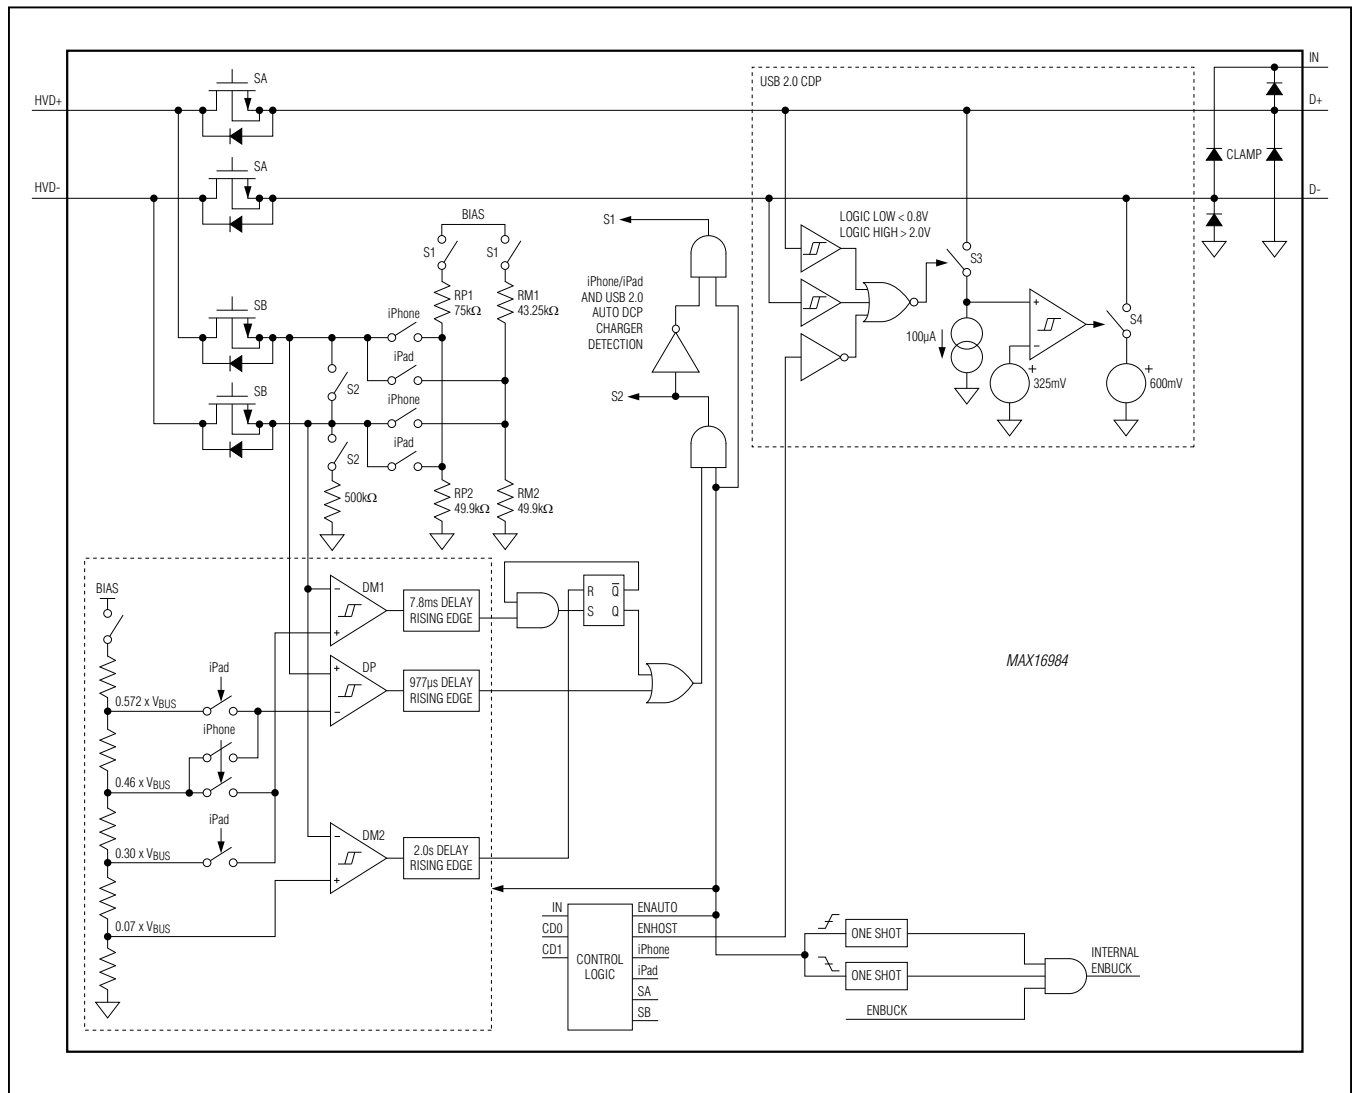

Figure 7. Data Switches and Host Adapter Emulator
a logic-level low/high for USB low-speed (LS) and USB full-speed (FS) data transmission and charging downstream port (CDP) mode. See Table 1 for CDP mode and Figure 7 for a detailed description of all modes.
After a USB-compliant portable device detects V_{BUS} , it is allowed to check if the host device is a CDP by applying a voltage to HVD+ and checking the voltage on HVD-. At this time, it is assumed that HVD+ and HVD- are logic-low, which means that the voltage is less than 0.8V. Then the port-detection circuit is enabled and switch 3 is on (Figure 7). The portable device then drives HVD+ to 0.6V (typ). The comparator closes switch 4 and the HVD- line is then driven to 0.6V (typ). The portable device can now detect that it is connected to a charging port.
provide the proper Apple-compliant iPad bias voltage. Data switches SA are opened and switches SB are closed (Figure 7). Initially, the iPad termination resistors are presented on the HVD+/- pins, the MAX16984 then monitors the voltages at HVD+ and HVD- to determine the type of device attached.
The MAX16984 features an iPhone/DCP auto-detection mode for emulating dedicated iPhone 1.0A charging and USB-IF DCPs. CD1/CD0 must be set high/high to activate iPhone/DCP auto-detection mode. In this mode, the high-voltage-protected HVD+ and HVD- pins are disconnected from the low-voltage D+ and D- pins and are initially connected to internal resistor-dividers to provide the proper Apple-compliant iPhone bias voltage. Data switches SA are opened and switches SB are closed (Figure 7). Initially, the iPhone termination resistors are presented on the HVD+/- pins. The MAX16984 then monitors the voltages at HVD+ and HVD- to determine the type of the device attached.